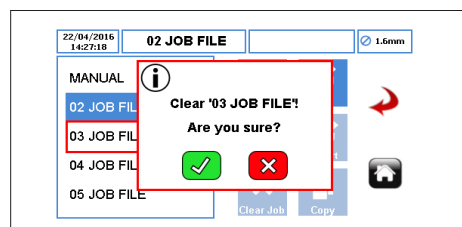

Figure 28 Clear the Job File
7. **CLEAR JOB** – clears all parameters and calibration data from the Highlighted Job File. When the user selects the icon a window as per *Figure 28* will prompt the user to confirm the selection.